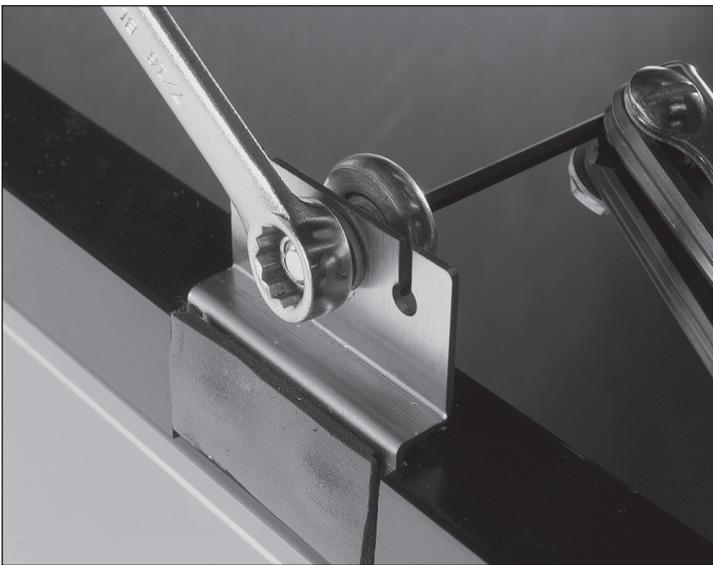

Fig. 1. Adjust the roller.
2. With a 7/16" wrench or adjustable wrench and 1/8" Allen wrench, loosen the roller and move it along the slotted hole. After the adjustment has been made tighten the roller into place. See fig. 1.